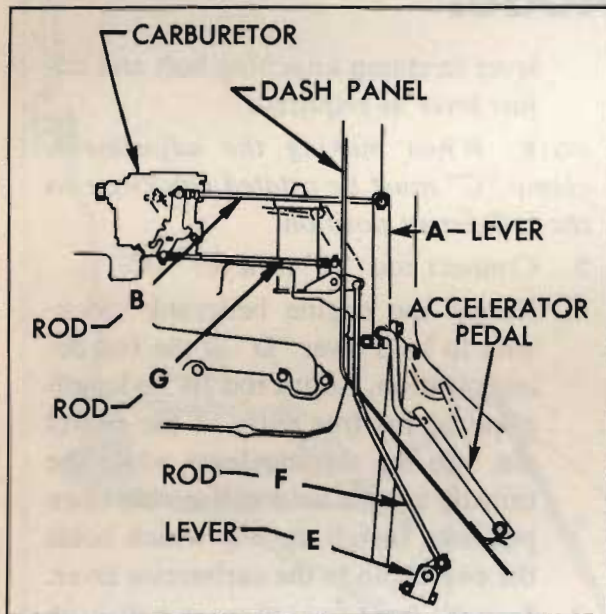

Fig. 5. Adjusting throttle linkage eight cylinder
2. Disconnect rod "F" from the throttle lever "E" (Fig. 5).